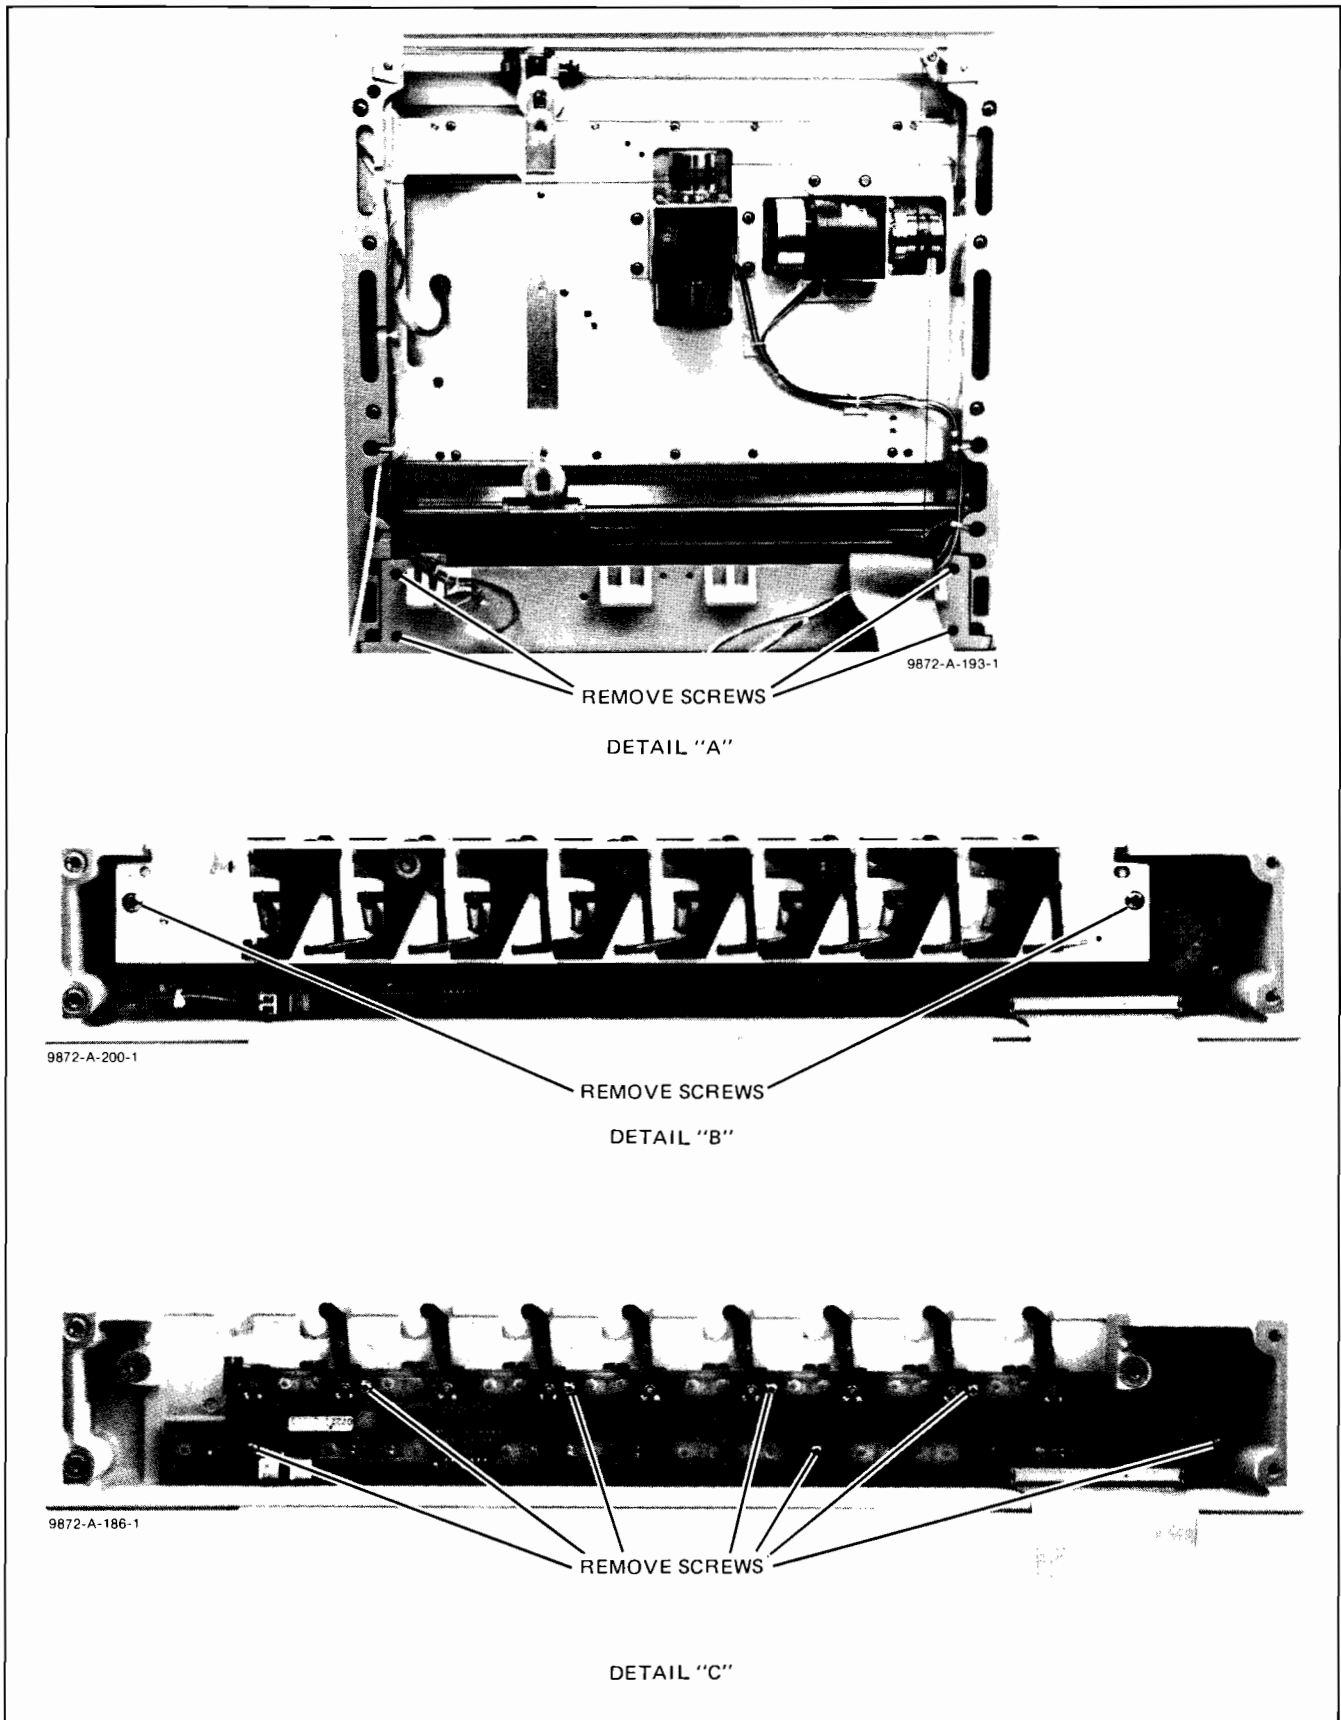

Figure 6-37. Front Panel PCA A3 Removal
- b. Unplug the pen solenoid cable and platen cable from the Chart Hold PCA A6. See Figure 6-37.
- a. Place the front panel assembly on a flat surface, braced as shown in Figure 6-37. Assure that all switch plungers are fully seated in the panel.